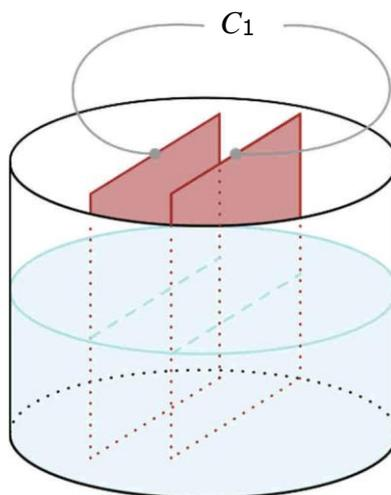

Figure 2: Two Parallel Plates in a Cylindrical Tank.
Step 1: Take a 5 liter plastic bottle and cut its upper section to create a tank as exemplified in Figure 2. Measure the exact height of your tank. Take two pieces of metal plates that you can submerge into water with a fixed plate separation. (You may glue a plastic spacer between the plates so that the distance is fixed.) Firstly, calculate theoretically the capacitances at home when the tank is empty and full water in between the plates. In laboratory, you will measure the capacitances of the plates for two cases (empty and full cases) with given described method below (see Section 3). Please fill in the blanks given below with your measurements: